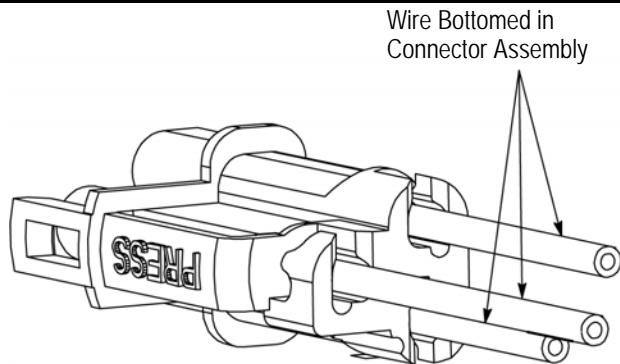

Figure 3
- Insert each stripped wire into an insertion hole in the back of the plug or receptacle until bottomed. For field wiring, black and white wires must be inserted into corresponding holes marked "B" or "W". This "Wire-Trap Termination" method removes the need for application termination tooling. See Figure 3.